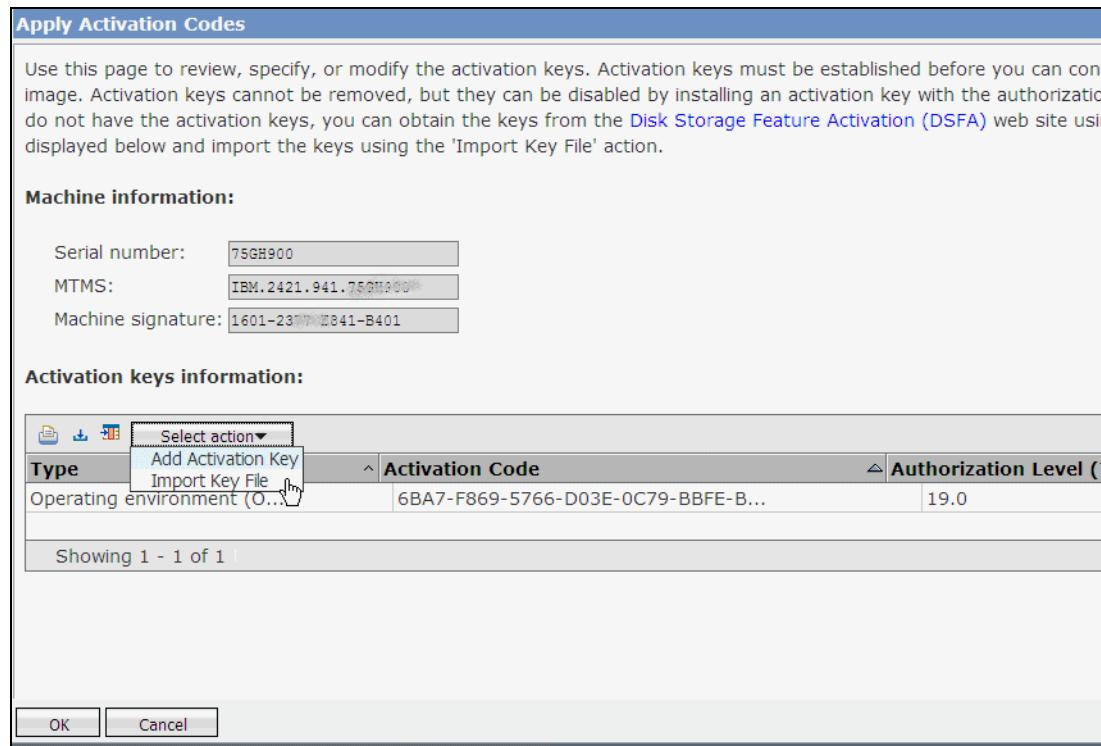

Figure 10-11 Apply Activation Codes window
2. The Apply Activation Codes window opens (Figure 10-11). If this is the first time that you are applying the activation codes, the fields in the window are empty. In our example, there is only a 19 TB Operating Environment License (OEL) for FB volumes. You have an option to manually add an activation key by selecting **Add Activation Key** from the drop-down Select action menu. The other option is to select **Import Key File**, which you use when you downloaded a file with the activation key from the IBM DSFA site, as explained in 10.2.2, “Obtaining activation codes” on page 241.